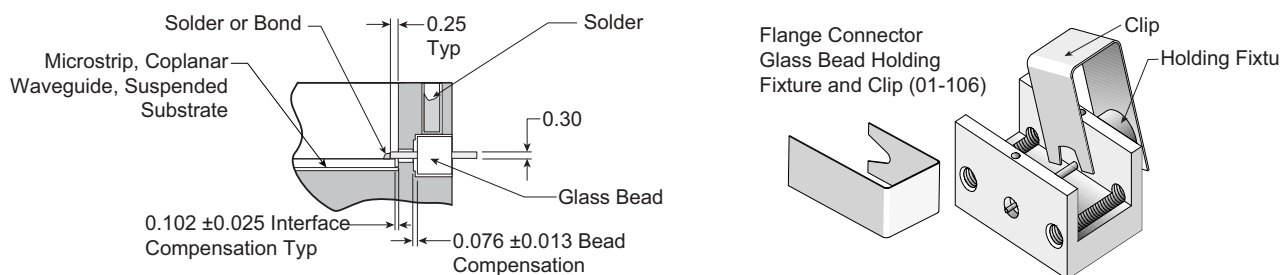

Figure 7-3. K103M-R or EK103M-R Glass Bead Assembly
1. Install the microstrip into the housing (see Figure 7-3 for dimensional tolerances around the glass bead).
3. Flux the glass bead and insert it, long-end first, into the 01-103 Glass Bead Holding Fixture (Figure 7-3).
5. Secure the holding fixture in place by using the spring clip furnished with the fixture (Figure 7-3). Position the spring clip so as not to obstruct the solder access hole in the housing. Ensure that the glass bead is centered and that it is making good contact with the microstrip.